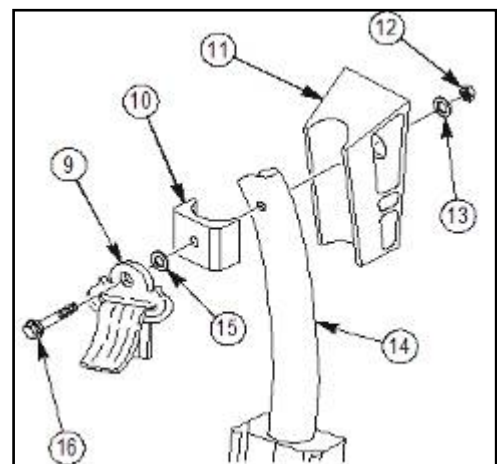

Figure 5c.
J. Remove locknut (12), two washers (13 and 15), shoulder bolt (16), seat belt D-ring (9), and B-pillar support bracket (11) from B-pillar support tube (14) as shown in figure 5c. Discard washer (13) and temporarily reinstall seat belt D-ring (9) with shoulder bolt (16), washer (15), and locknut (12) to ensure D-ring mounting bracket (10) remains in place. Hand tighten locknut (12). Repeat procedure for opposite side of vehicle.